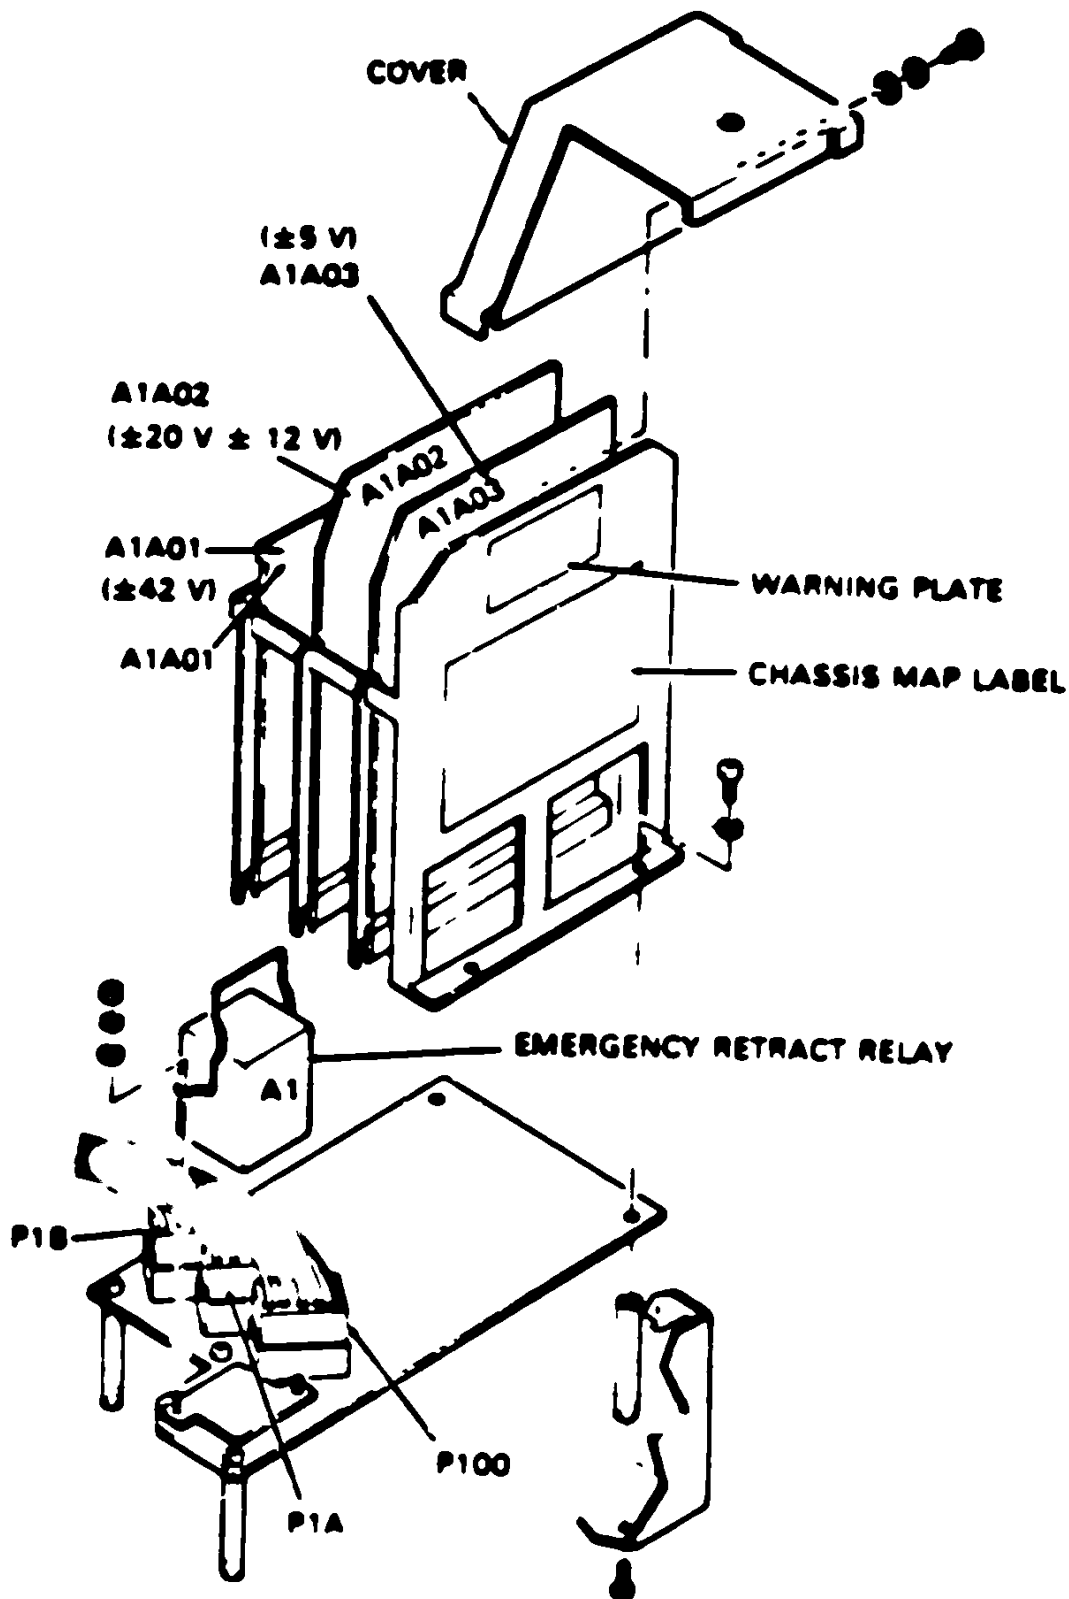

FIGURE 7
9. Disconnect Transformer connector P100 from the power supply assembly, refer to FIGURE 7.
41. The +5V output should read +5.0 V (+/- 0.05V). If not, adjust the +5 V potentiometer on card A1A03 (FIGURE 7) until it is within specification.
42. The -5V output should read -5.0V (+/- 0.05V). If not adjust the -5V potentiometer on card A1A03 (FIGURE 7) until it is within specification.
43. If any adjustment was necessary in the preceding two (2) steps, recheck both outputs.